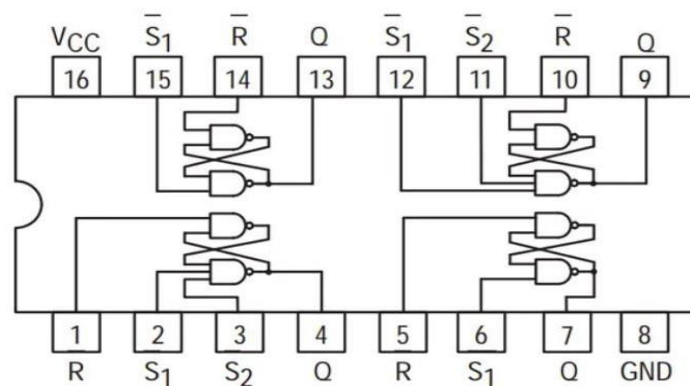

Fig.2a.pin diagram of SR FLIP FLOP
- Connect pin diagram as shown in fig.2a as per given pin description Fig.2b..